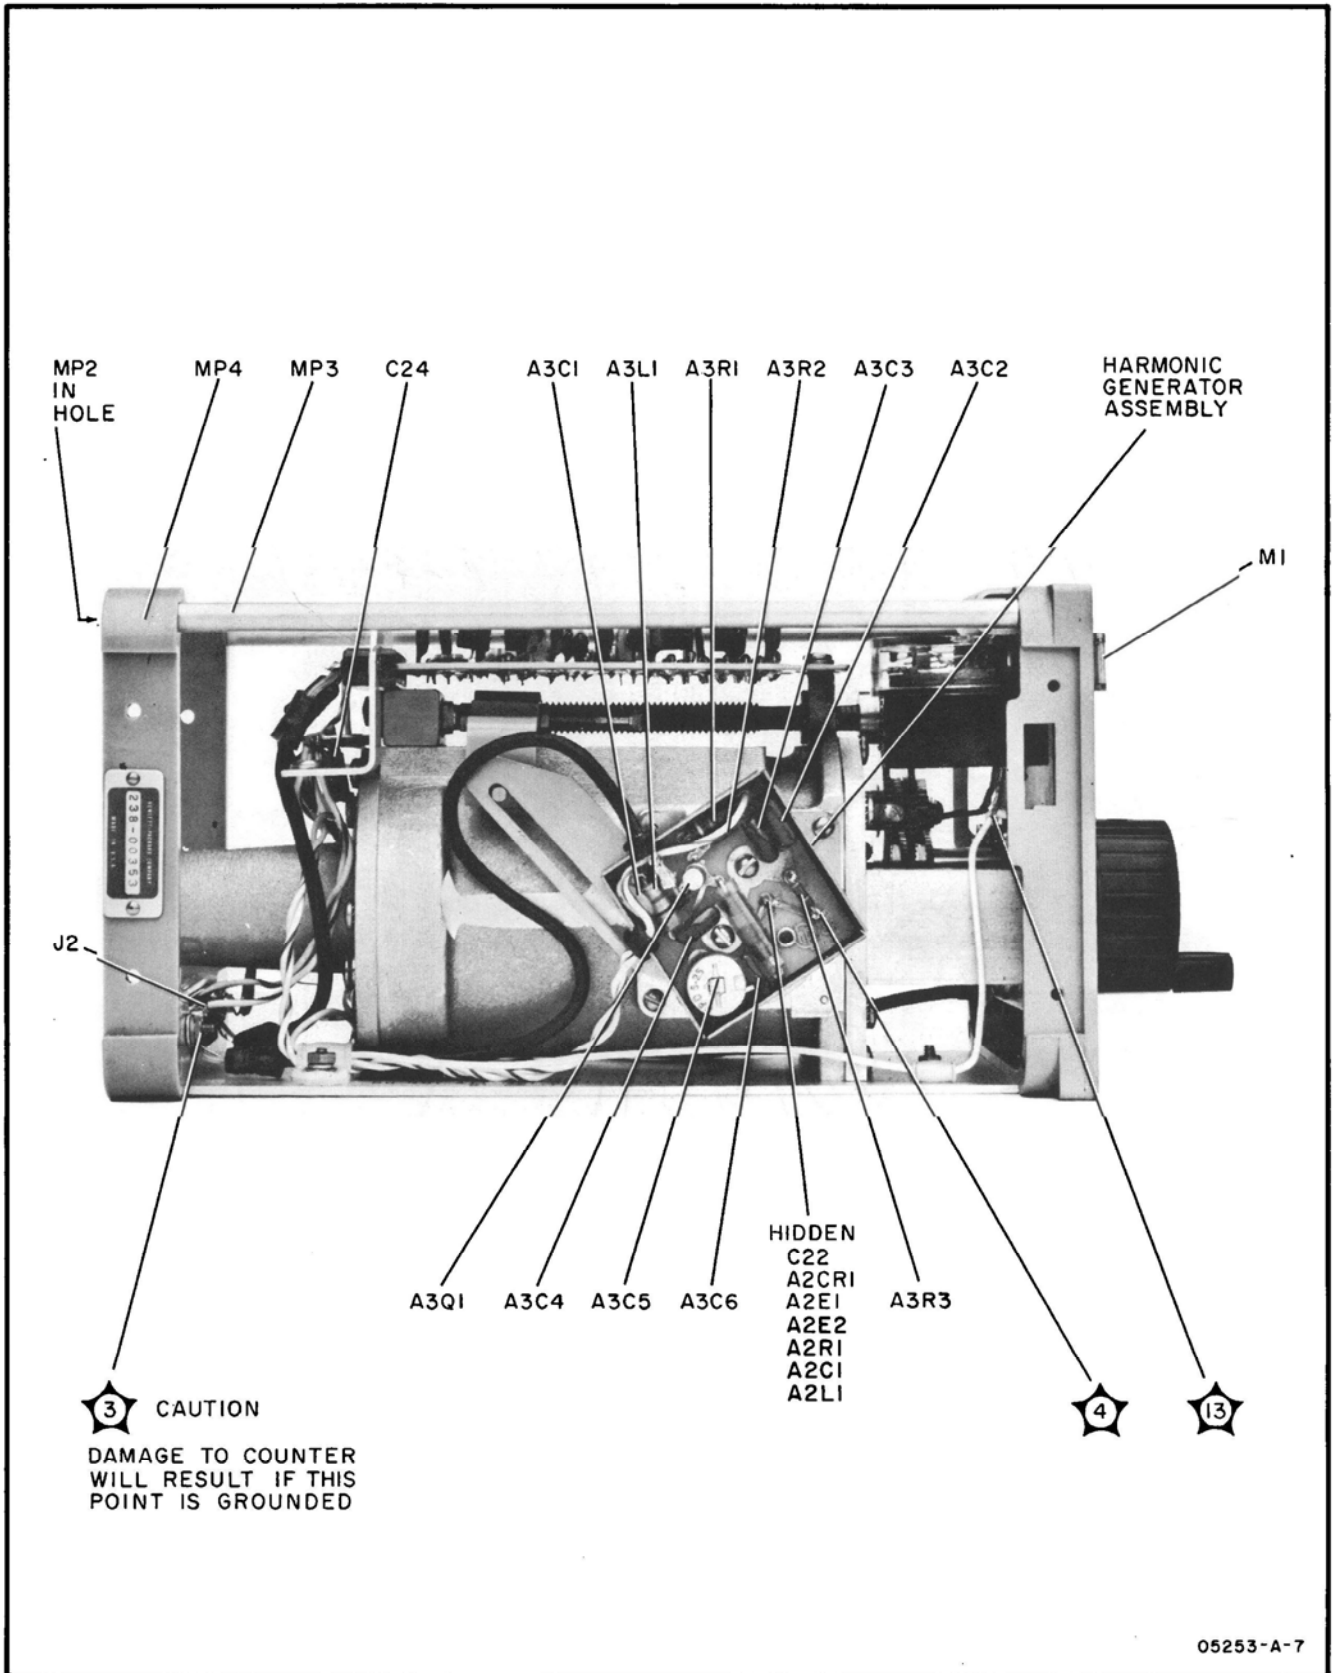

Figure 5-2. Left Side View
e. Remove screw (MP2) which holds aluminum spacer-rod (MP3) to plastic rear-support (MP4; see Figure 5-2). Grasp spacer-rod and turn counterclockwise to remove rod from front support.
f. Using plastic tuning tool, tune A3C5 (see Figure 5-2) for maximum reading on RF Millivoltmeter. Tune A3C5 through hole in harmonic generator assembly shield cover.